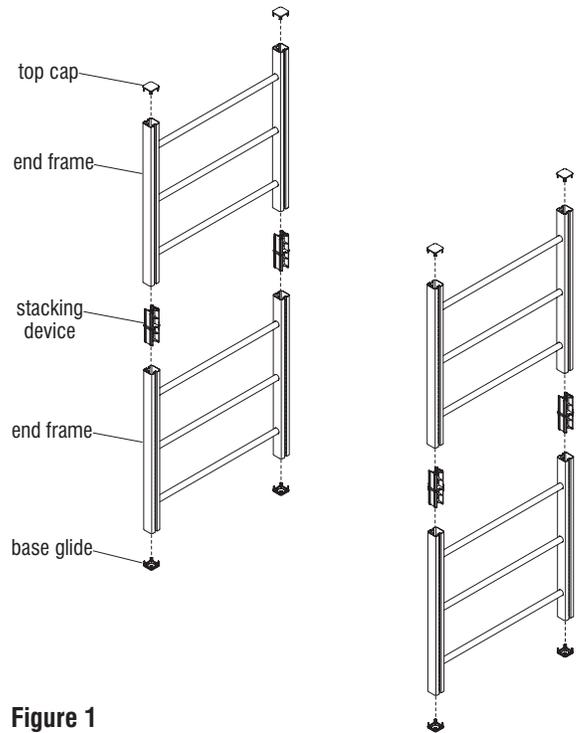

Figure 1
1. If bed layout plan includes a stacked pair of end frames (as with a bunk or loft bed), first insert a pair of base glides (with hole in center) to the bottom of the lower bed frame. Next, orient stacking devices as illustrated and insert each into the top of that lower frame. Use a weighted rubber mallet to tap the stacking devices in, seating them properly (Figure 1).
2. Place the second, upper end frame onto the stacking devices of the lower end frame and press down evenly to begin seating both frames together on the stacking devices. Use a weighted rubber mallet, tapping a little on each upper frame upright, as required to properly seat two frame sections together completely (Figure 1).
3. Place a top cap onto each upright of the top frame. Repeat above procedures for second frame (Figure 1).